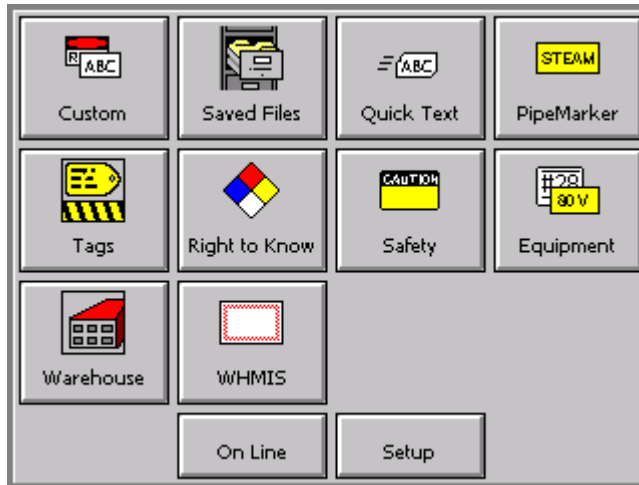

Figure 12-1. The Main Menu screen.
3. Choose the **On Line** button on the Main Menu screen (Figure 12-1).